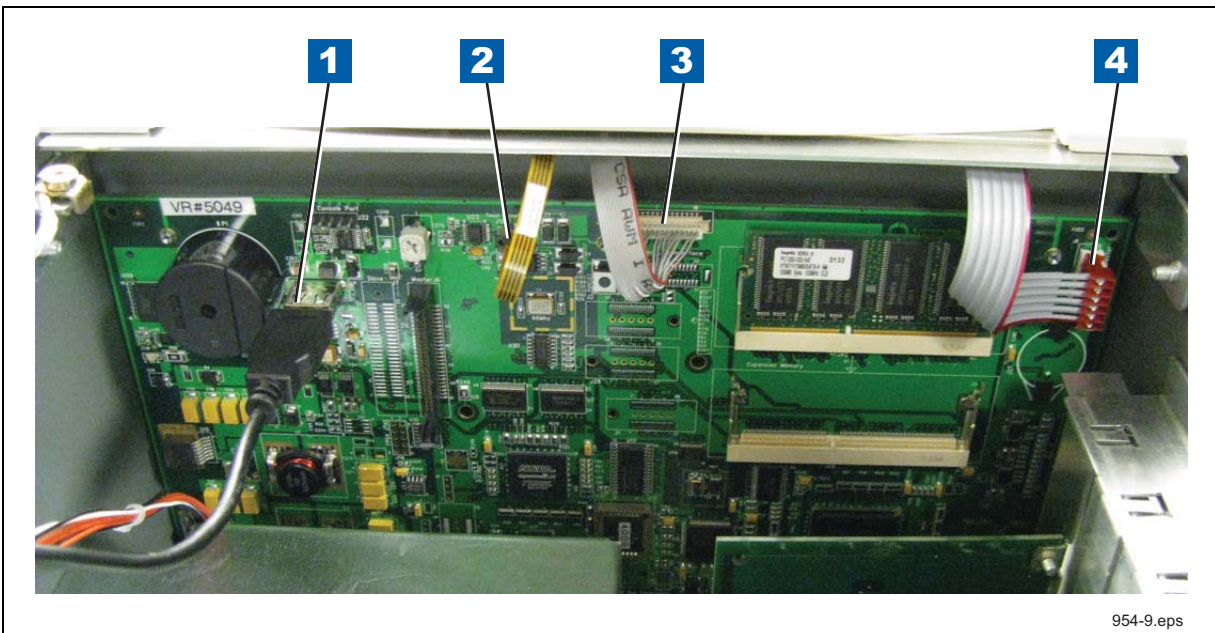

Figure 8. Cable connections to CPU board
5. Disconnect the four cables from the Display door along the front edge of the CPU board (see Figure 8).
LEGEND FOR NUMBERED BOXES IN Figure 8
14. Connect each of the four cables in their respective CPU board connectors (see Figure 8).
12. Connect each of the four cables in their respective CPU board connectors (see Figure 8).